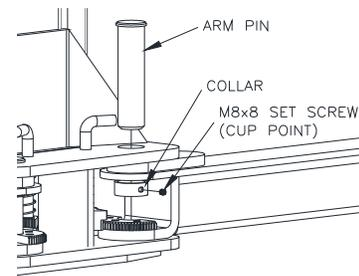

Fig. 10 –Arm Install
- 31) Lubricate the arm pin or carriage arm pin hole with “anti-seize” and install the arms as shown in Fig. 10. Once the set screw is finger tight against the arm pin, tighten 1/4 turn with hex key.